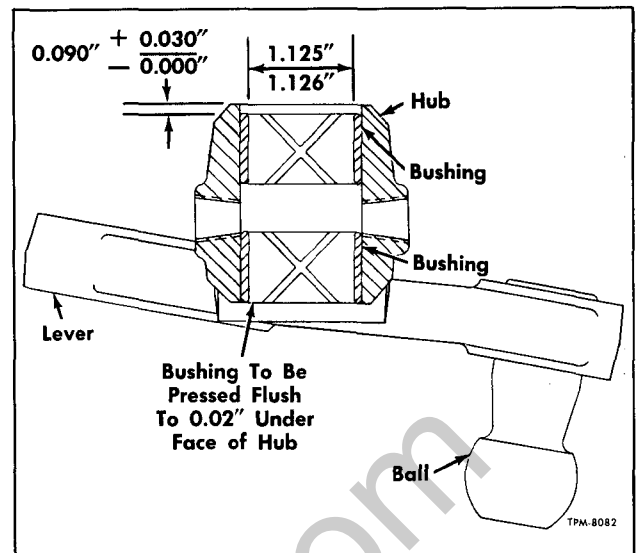

Figure 11—Idler Lever Bushing Replacement (TM80, Tilt Models) (Typical)
REMOVAL AND DISASSEMBLY (Fig. 11)
ASSEMBLY AND INSTALLATION (Fig. 11)
1. Using a press and suitable sleeve, press new inner and outer bushings into bore of idler lever. Press bushings in to dimensions shown in figure 11.